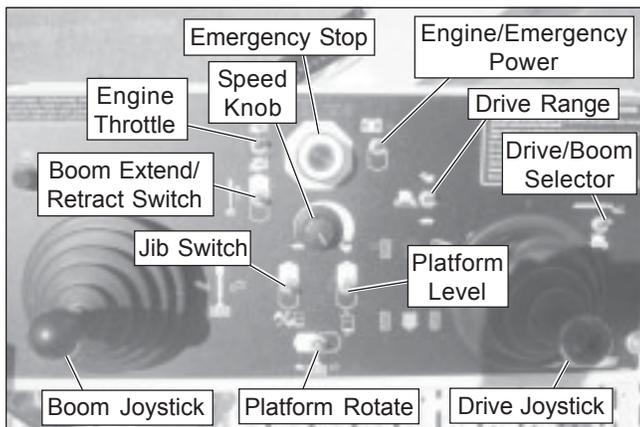

Figure 7.19 – Upper Control Panel Top
3. At the upper controls (refer to Figure 7.19), pull the emergency stop button outward.